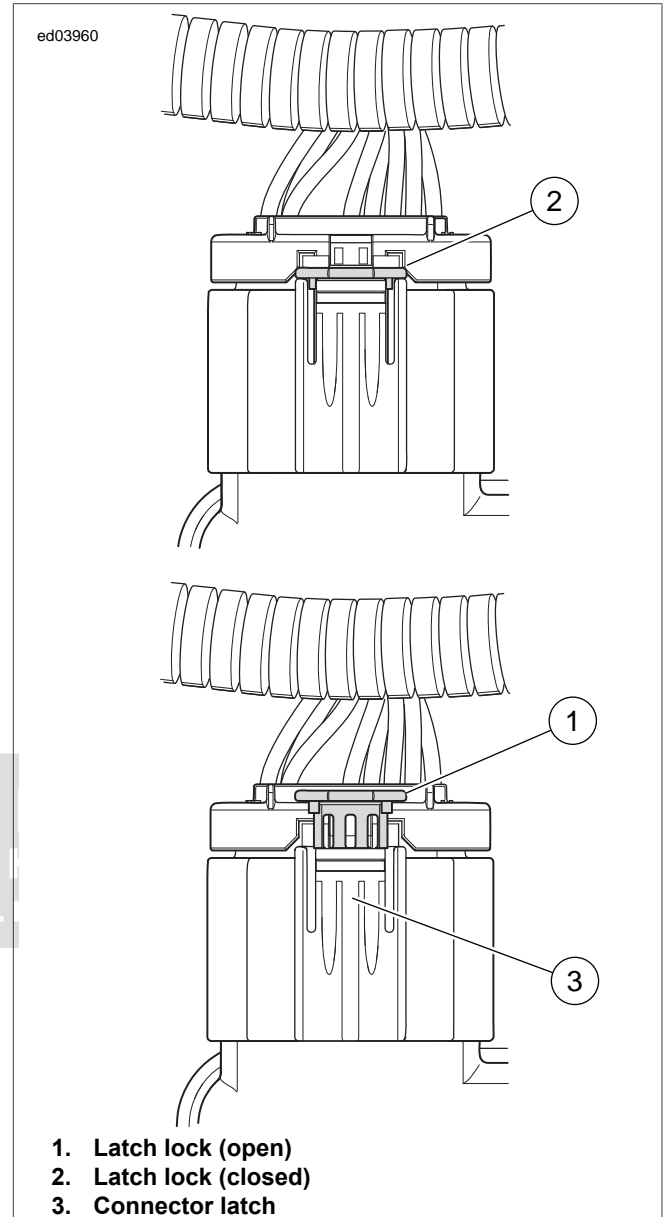

Figure B-32. Tyco GET 64 Sealed Connector Latch and Lock
1. See Figure B-32. Pull the latch lock open.